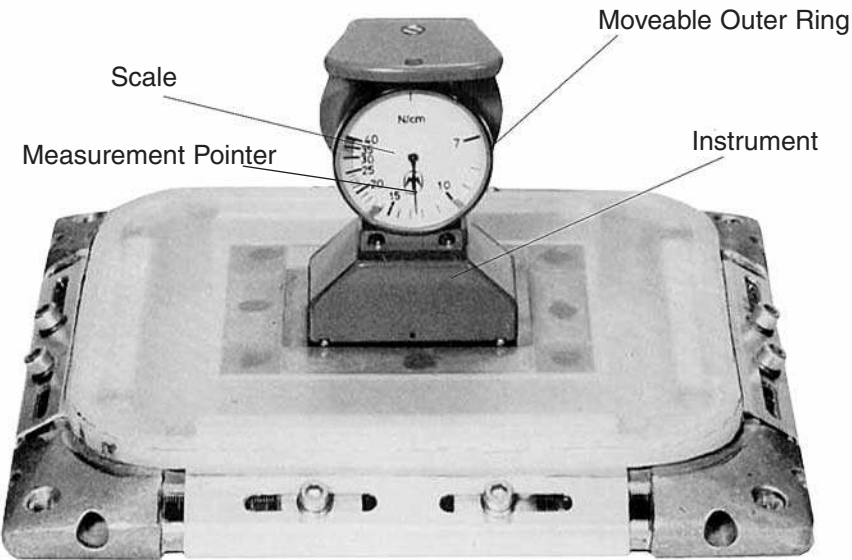

Fig. 1
2. Place the STM-50 on the screen web as shown in Fig 1. Tap the screen web lightly with your hands a few times to compensate for any mechanical friction cause by the instrument. This will help to ensure repeatable measurements.